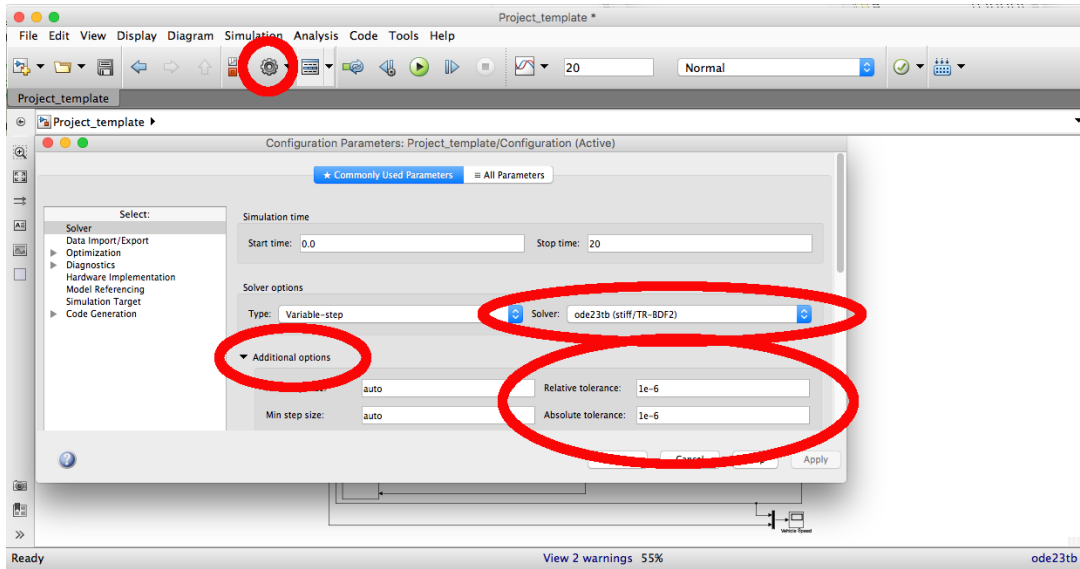

Figure B.2 Figure showing how to view and change solver parameters. The red ellipses marks relevant fields.
- Make sure the solver is set up correctly. We recommend the solver *ode23tb* and relative- and absolute tolerance of 10^{-6} . These settings are available in the *Configuration Parameters* menu which you enter by clicking on the cogwheel in Simulink, see Figure B.2. To see all options you might have to press *Additional Options*.